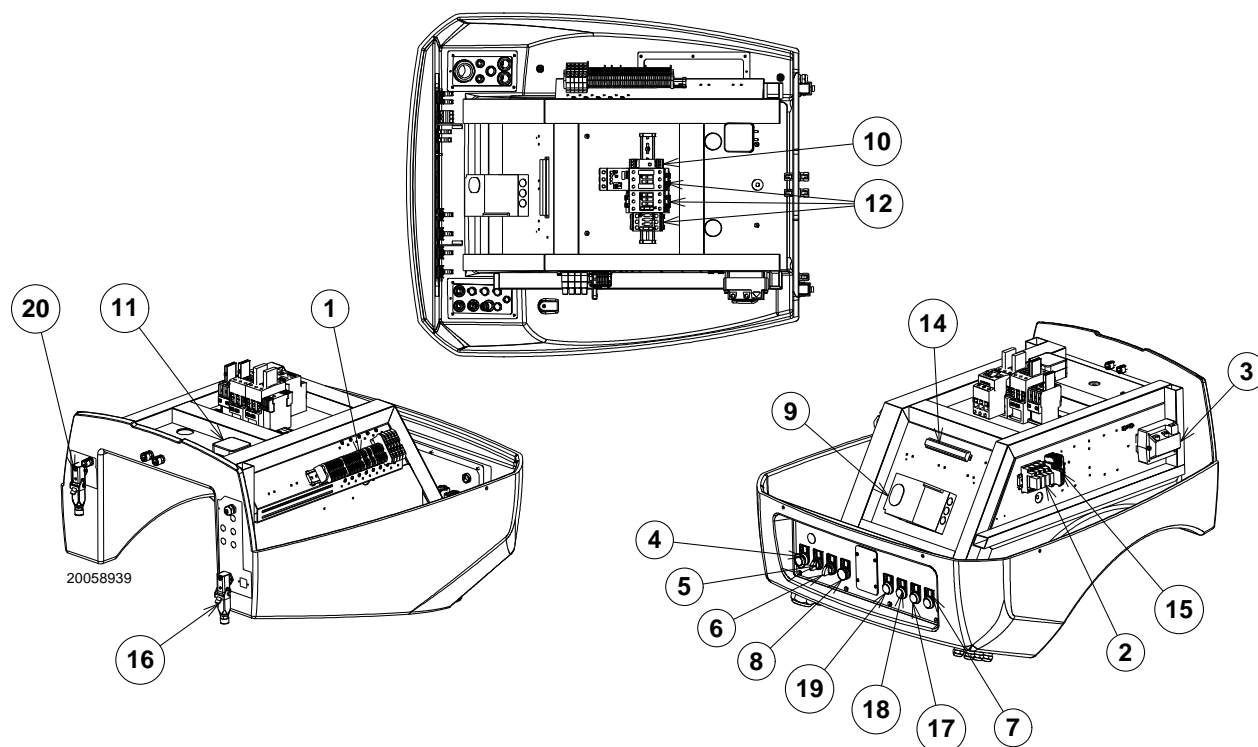

Fig. 5
- **Control box lockout:** if the pushbutton (red led) of the control box 9)(Fig. 5) and the pushbutton with light 8) light up, this indicates that the burner is in lockout. Release by pressing the pushbutton 8).